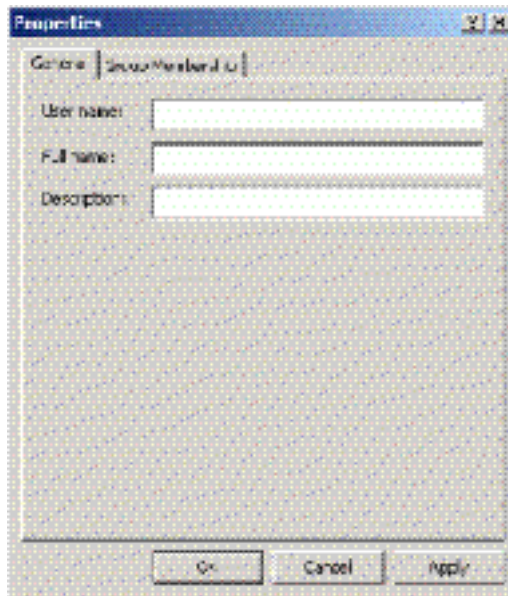

Figure 2-20 Properties Dialog Box (General Tab)
1. Highlight the user at the *Users for this computer* field and click *Properties* at the *Users and Passwords* dialog box. The *Properties* dialog box appears with the *General* tab selected (Figure 2-20).